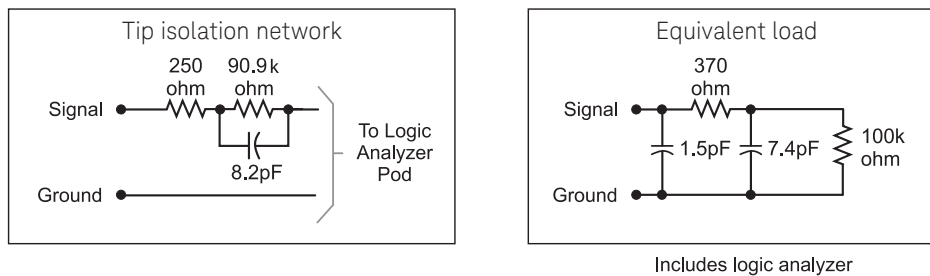

Figure 9.1. Probe tip Isolation network and equivalent load.
The standard probing system consists of IC clips, probe leads, probe housing and probe cable. Because it is passive, the standard probing system is smaller, lighter, and much easier to use than active probing systems. This passive probing system is similar to a probing system used on a high frequency oscilloscope. It consists of an isolation network (as shown in Figure 9.1) at the probe tip and a shielded resistive transmission line. The advantages of this system are:
- High input impedance. See Figure 9.1.